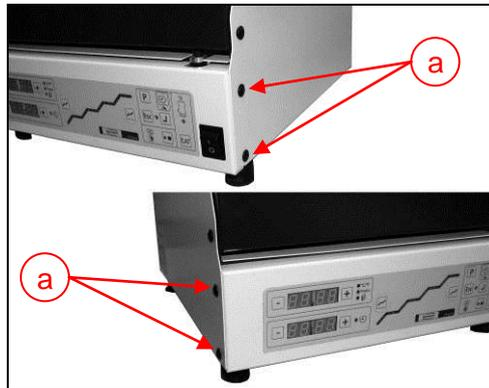

Fig. 16 – Removing operating unit
- Loosen the operating unit fastening screws (Fig 16 a)
- Push the operating unit straight back into the oven and secure it with the 4 screws (Fig 16 a)